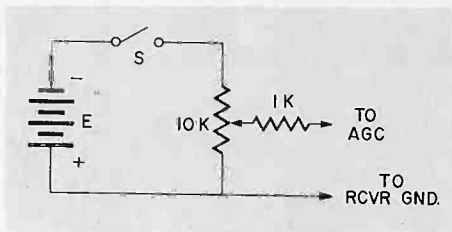

Figure 4—Simple "bias box" to take the place of agc during alignment.
3. A bias box is required to take the place of the agc during alignment. Figure 4 shows a bias box which can be constructed to obtain the necessary dc voltage. Depending upon the receiver, the voltage can be up to -10 volts which is more